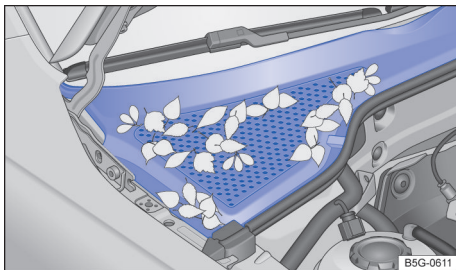

Fig. 158 Between the engine compartment and the windshield: drainage channel (illustration)
Remove leaves and other loose objects with a vacuum cleaner or by hand → Fig. 158 → ①. Always have cleaning of the engine compartment performed by a suitably qualified workshop. Volkswagen recommends using a Volkswagen dealership → ⚠.